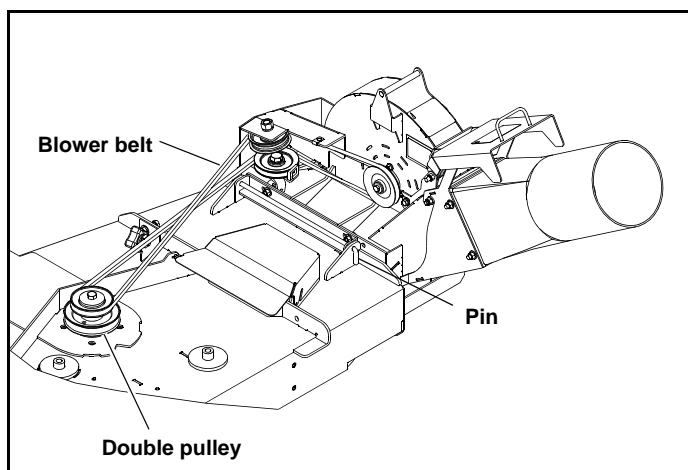

Figure 4-2
5. Release the tension from the blower drive belt and remove it. Figure 4-2
6. Remove the pin that connects the blower to the discharge chute bracket tabs and remove the blower housing. Figure 4-2